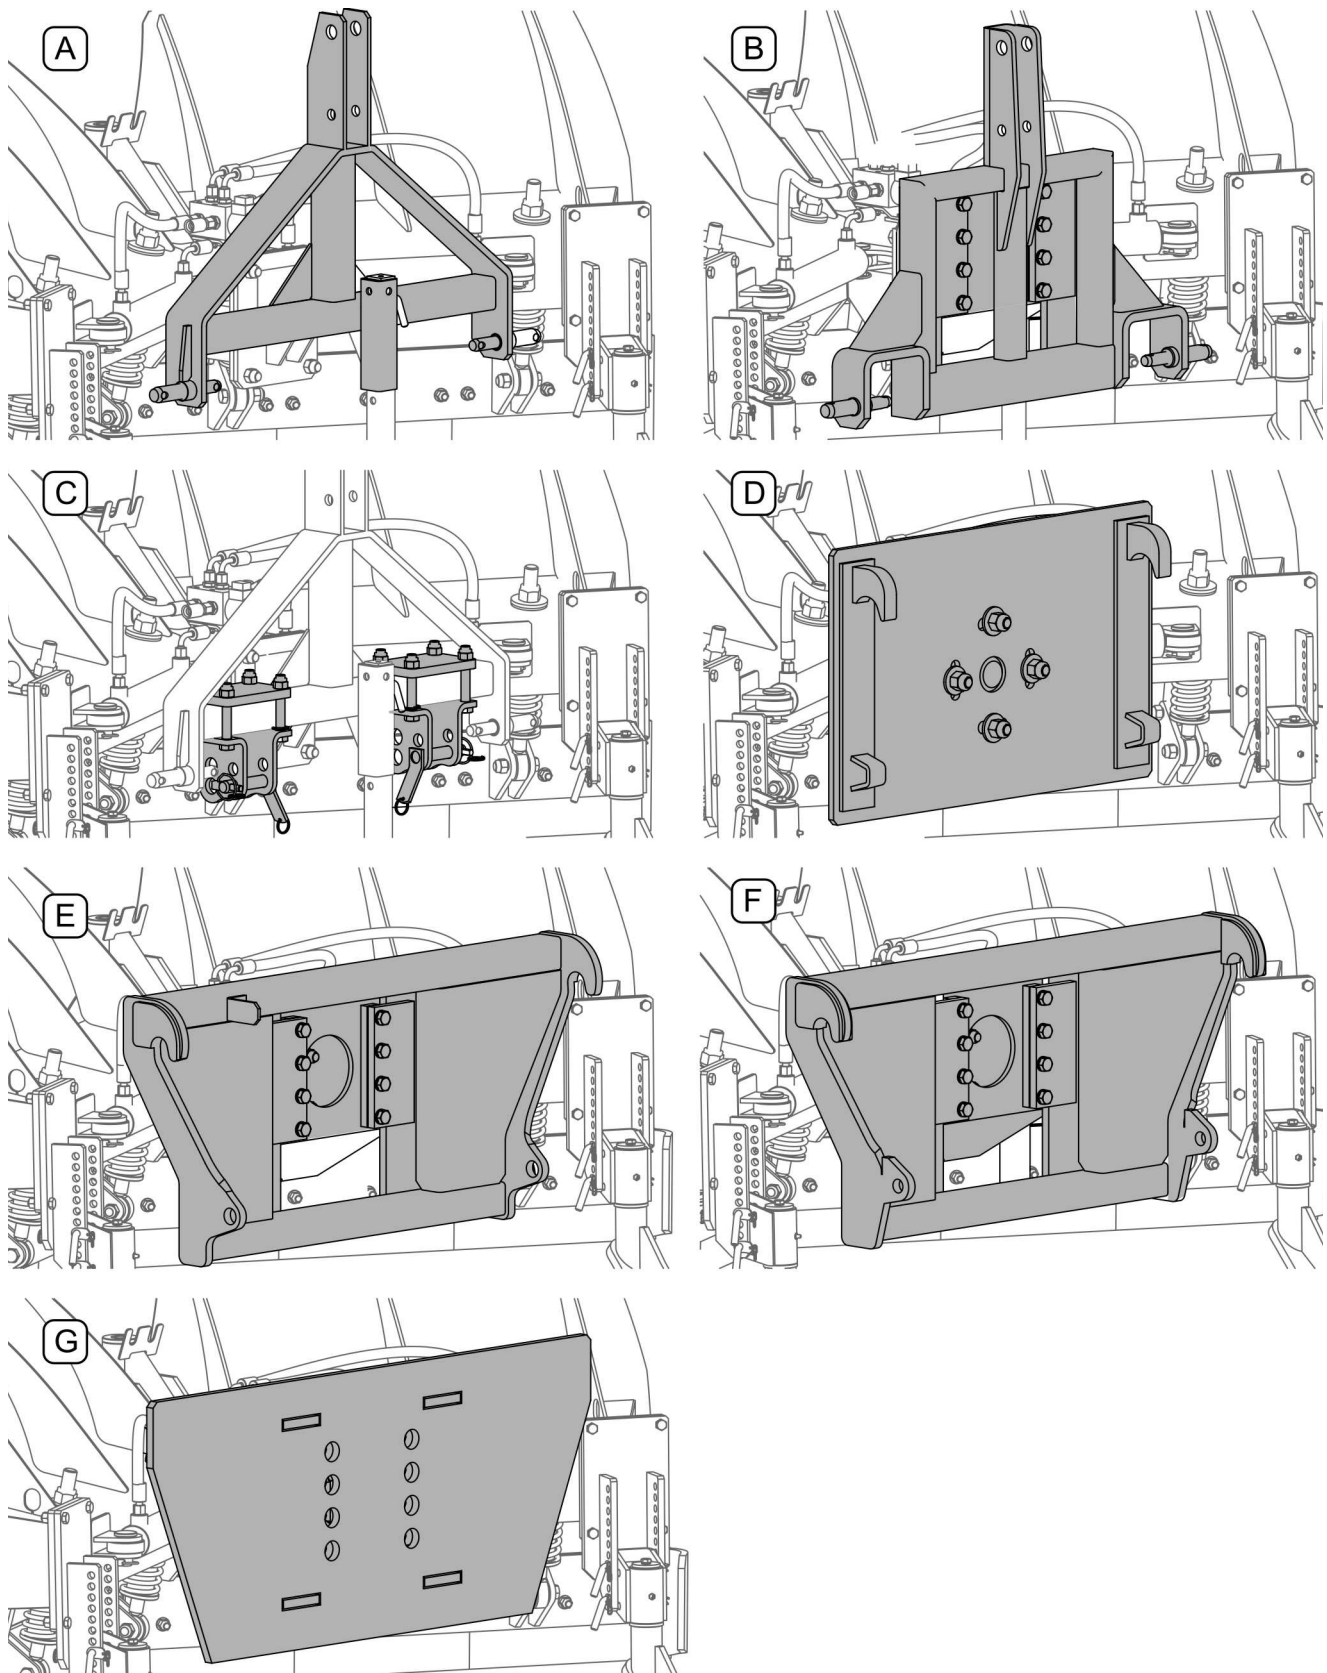

FIGURE 4.1 Types of linkage systems
plough when it is disconnected from the carrying vehicle. The PU-1700/PU-2100 plough can also be equipped with slides (10) and other linkage systems allowing linking with front loader or the LC-1650 or EURO-mount, swing three-point linkage system (FIGURE 4.1)
Plough equipped with a "rigid" hitching system A, C, D (FIGURE 4.1) should be mounted only to the carrying vehicle equipped with a floating section control.